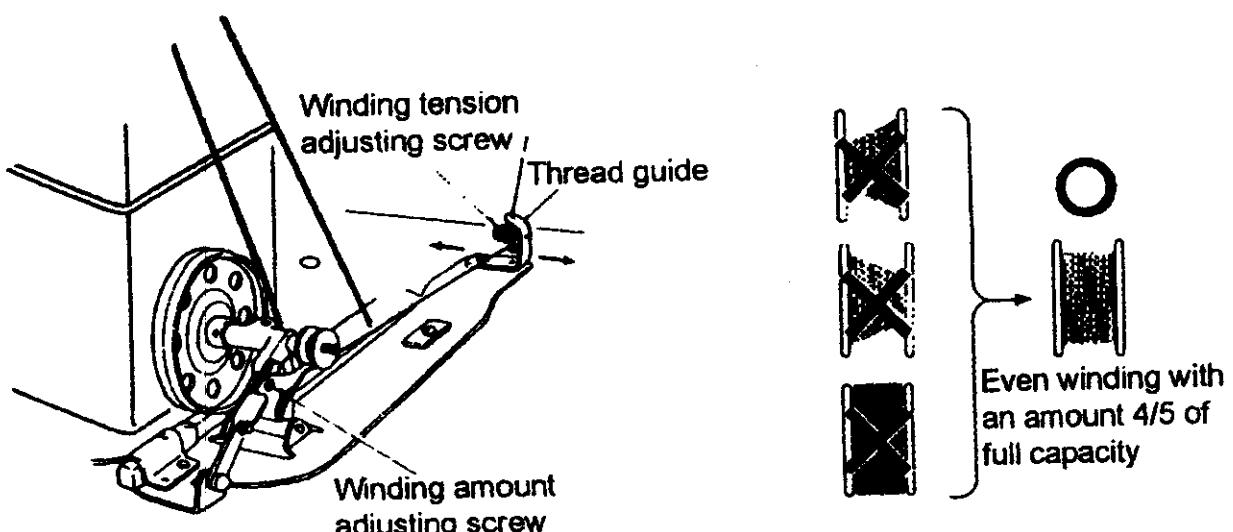

Fig. 2
6、How to Wind the Lower Thread (Fig. 2):